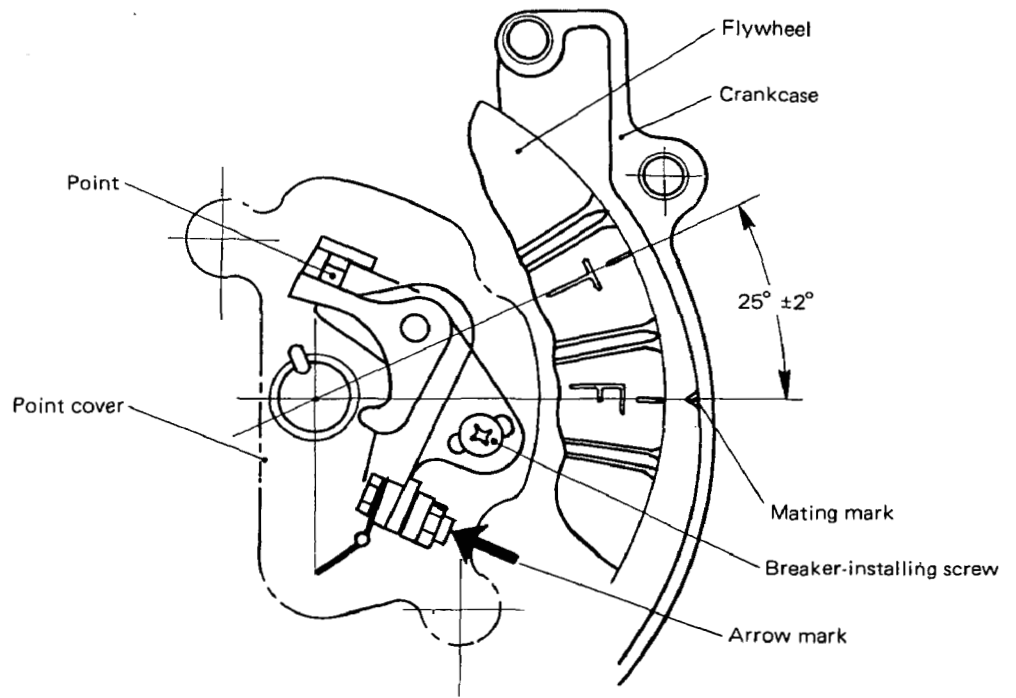

Fig. 17
- 7) Adjust as per the Fig. 17 (under the condition stated in item 6).
- b) Confirm open/close condition of point by pushing breaker in the direction of arrow. Adjust breaker so that point may be about to open. (Normal ignition timing will be $23^{\circ} \sim 27^{\circ}$)Notice that ignition timing will be over 30° if point is opening under the condition shown in Fig. 17.